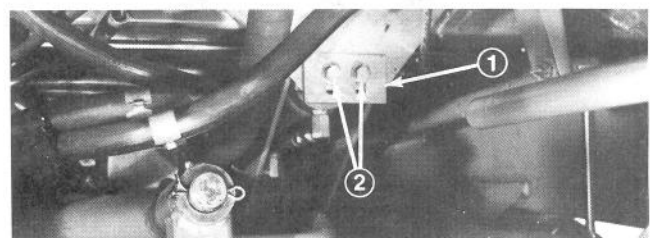

Figure 19
3. If cutting unit is not level adjust center plate (Fig. 19). Move plate down if cutting unit is low on right end and up if right end is high.
4. Tighten capscrews securely to hold plate in adjustment (Fig. 19).